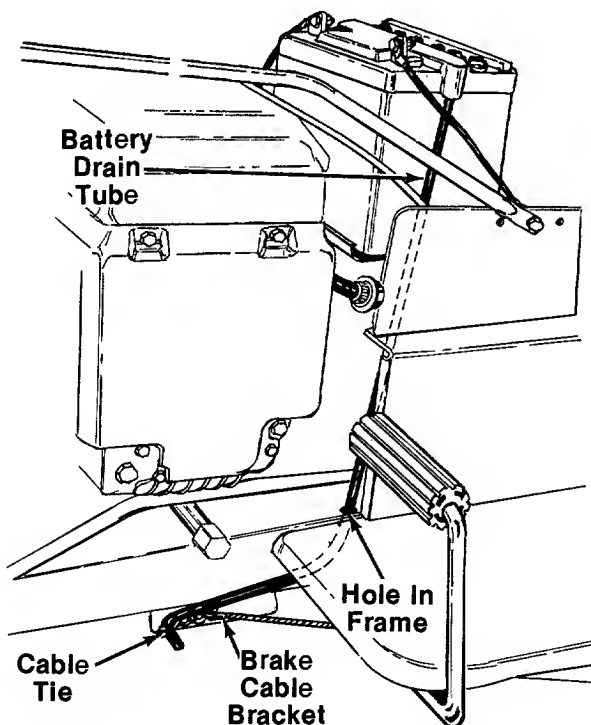

FIGURE 8.
6. Route the battery drain tube down through the hole in the frame, then forward to the brake cable bracket. See figure 8.
7. Secure drain tube to brake cable bracket with cable tie (H) as shown in figure 8. Cut off excess end of cable tie.